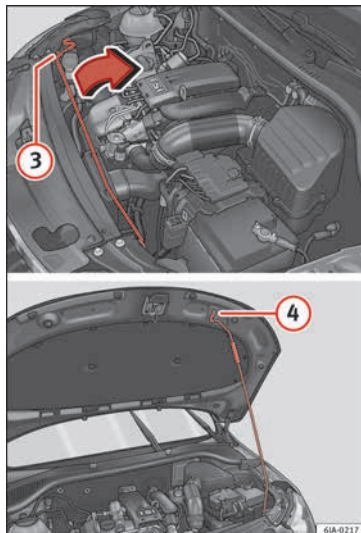

Fig. 205 Locking the bonnet.
- Remove the support strut **3** » Fig. 205 from its fastening in the direction of the arrow and secure the raised bonnet so that the end of the strut hooks onto the opening in the bonnet **4**.